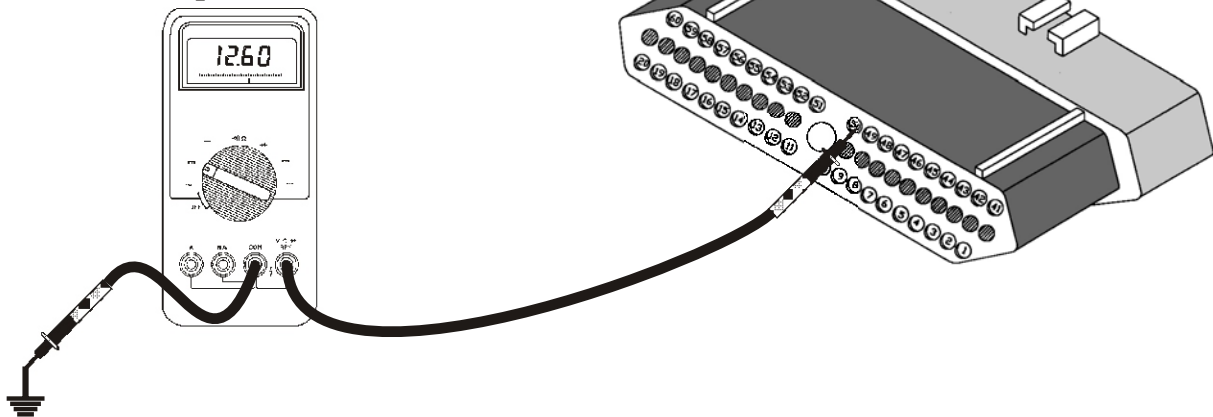

Figure 20
- Unplug the controller and place the DVOM to a DC volt setting. With the negative lead place to a good known ground, carefully inspect terminals 9, 47 and 50 with the positive meter lead (See Figure 20). If a volt reading is seen on any one of these three terminals, a short to power has occurred somewhere in the harness from the solenoid body connector to the controller. Repair the short to power or run a new wire or wires from the solenoid body to the controller. Terminal 9 in the controller goes to terminal 3 in the solenoid body connector. Terminal 47 in the controller goes to terminal 1 in the solenoid body connector. Terminal 50 in the controller goes to terminal 2 in the solenoid body connector. If no volts is seen, go to the next step.